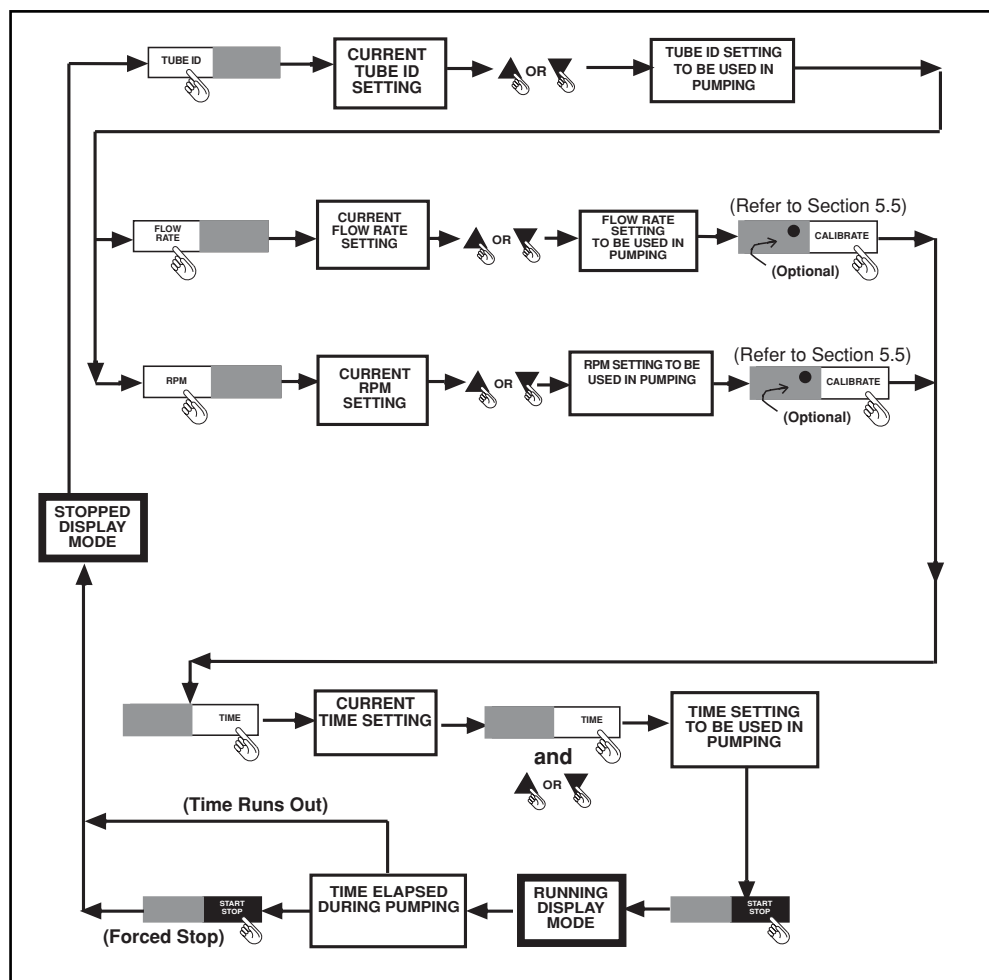

Figure 6-5. Block Diagram: Pumping in the TIME Mode
Figure 6-5 shows the overall block diagram of the TIME Mode in the RUNNING Display Mode.
2. Toggle the *ON/OFF switch* to turn on the unit's power. The display is in the **STOPPED Display Mode**. Refer to Figure 6-5.
xx:xx:xx	<p>Displays current TIME setting</p> <ol style="list-style-type: none"> 1. Press the TIME key. The display flashes the TIME setting you selected just before starting the pump. 2. Use the UP and DOWN ARROW keys to enter the TIME setting you desire. As you use the UP and DOWN ARROW keys, the display changes accordingly. The SECONDS scroll, When you reach 0 or 59 seconds, the minutes setting changes. When you reach 0 or 59 minutes , the HOURS setting changes. Refer to Figure 6-5. <p>NOTE: While the pump is running, you can not use the TIME key to toggle from SECONDS to MINUTES TO HOURS.</p>